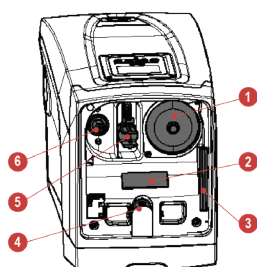

Figure 3
- Inside the technical compartment you can access (see Fig.3).
The expansion vessel is preloaded with pressurised air through the valve accessible from the technical compartment (Fig.3, point.1). The preload value with which the expansion vessel is supplied by the manufacturer is in agreement with the parameters SP and RP set as default, and anyway it satisfies the following equation: